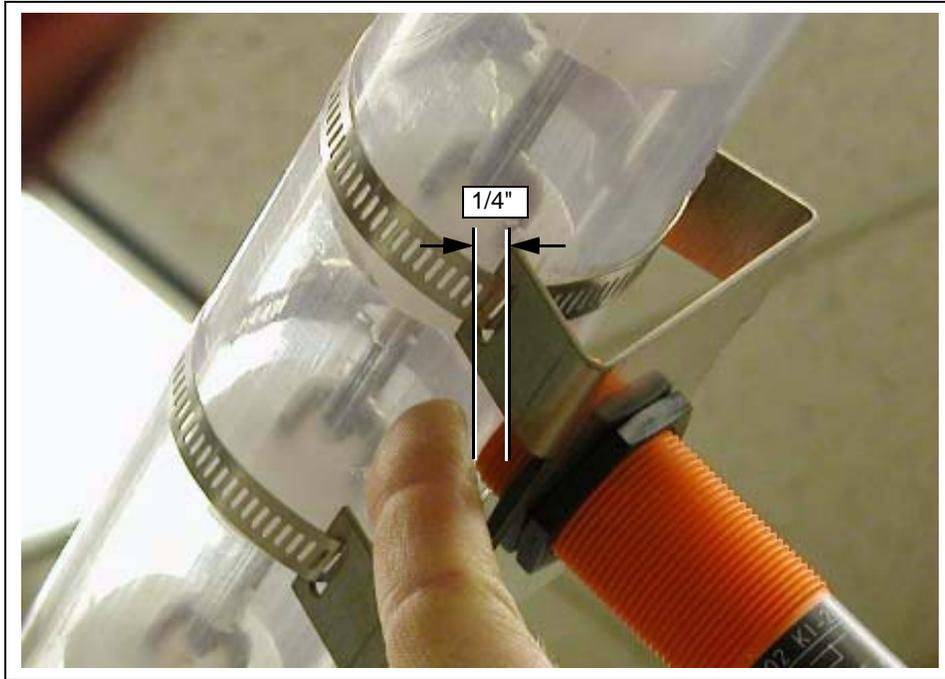
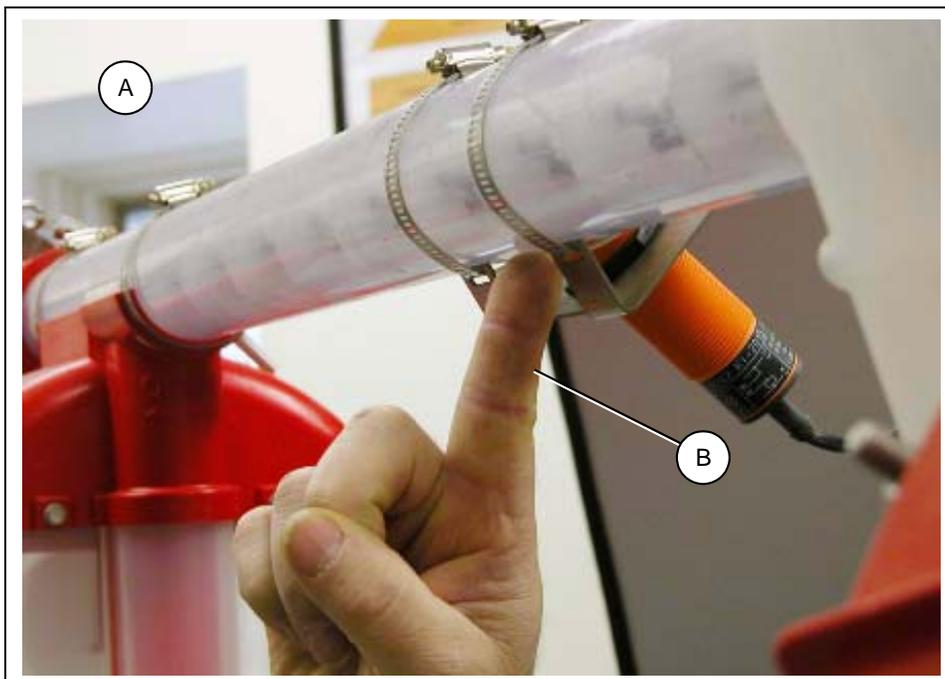

Figure 13M
Figure 13N
**NOTE:** Make sure that you have your fist closed with only your index finger open. Also, do not touch the tube with the other hand or leave anything laying over the tube to interfere with the sensitivity. (See Figure 13M and Figure 13N on Page 43.)